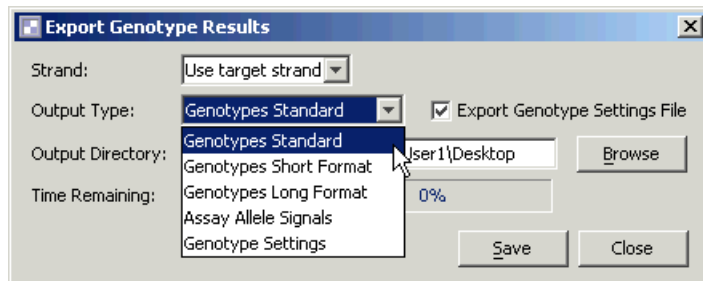

Figure 3.21 Export Genotype Results – Output Types Available
3. Open the **Output Type** menu and select one of the following (Figure 3.21):